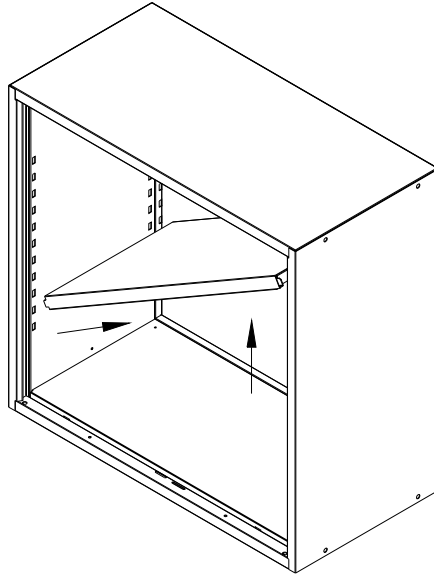

Figure 1 - Adjustable Shelf Removal
4. Rotate shelf upwards and out of slots as shown in Figure 1